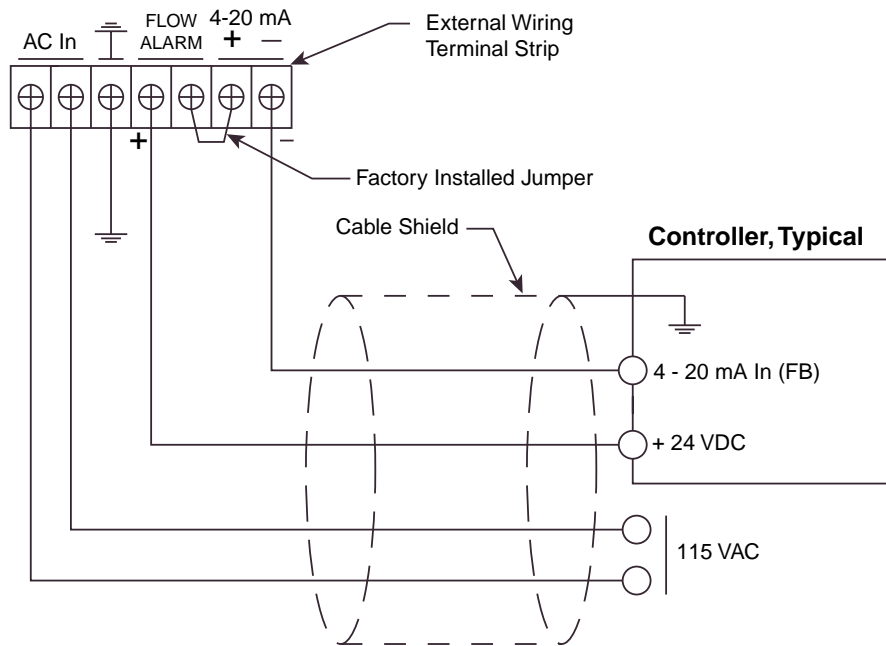
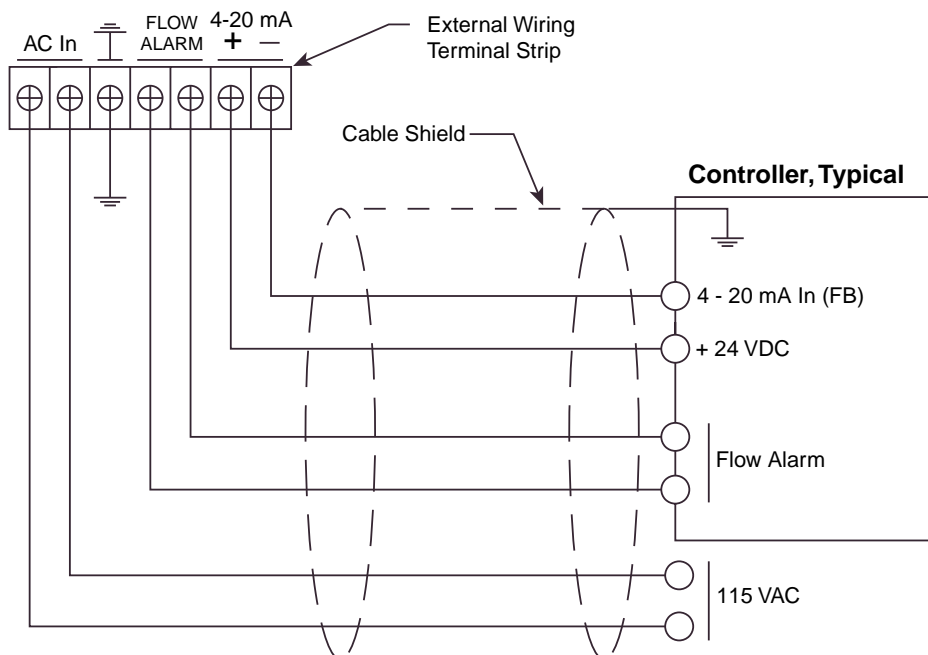

Figure 8: Wiring the GD-K7D2 to a Controller Without Flow Alarm Terminals
Figure 9: Wiring the GD-K7D2 to a Controller With Flow Alarm Terminals
A four conductor cable is used when the GD-K7D2 is wired to a controller that does not have flow alarm circuitry and flow alarm terminals for connection to the GD-K7D2 (see Figure 8 below). In this case, a jumper is factory installed between the second and third terminals from the right. If this jumper is not installed and the GD-K7D2 is being connected to a controller without flow alarm terminals, install a 20 gauge wire to jumper these two terminals.
A six conductor cable is used when the controller has flow alarm circuitry and flow alarm terminals for connection to the GD-K7D2 (see Figure 9 below).
4. Connect two or four wires between the GD-K7D2 and the controller as shown in Figure 8 or Figure 9 depending on the controller used.
- Connect the remaining two wires to an appropriate AC power source as shown in Figure 8 and Figure 9.
If the controller is the type that does not have flow alarm terminals, see Figure 8, then the GD-K7D2 will interrupt the 4 - 20 mA signal to the controller. This will cause the controller to indicate a fail alarm.
If the controller is the type that has flow alarm terminals, see Figure 9, then the GD-K7D2 will cause the controller to go into low flow alarm. See the controller instruction manual for more information.